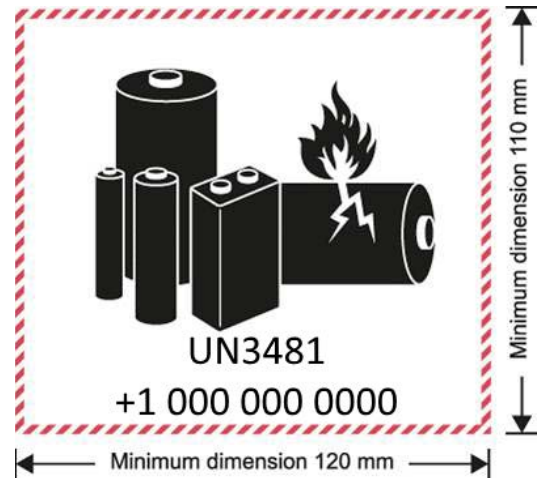

Figure 29. Li-ion Battery Shipping Label
As of January 2017, the Detective X with batteries installed and packed in the ORTEC-supplied transport case does not require any special labeling or shipping considerations on common carriers (e.g., FedEx, UPS, DHL) because the device contains only two Li-ion batteries with battery capacity less than 100 Wh each. Up to two (2) spare batteries may also be shipped in the transport case by inserting them in the cutouts provided in the foam lining, if an additional Lithium Battery Mark is applied to the transport case, as shown in Figure 29. The bottom of the label should list the telephone number of the person who is responsible for the package and can be contacted to answer questions that may arise during shipping. Compliant labels are available from shipping supply vendors.